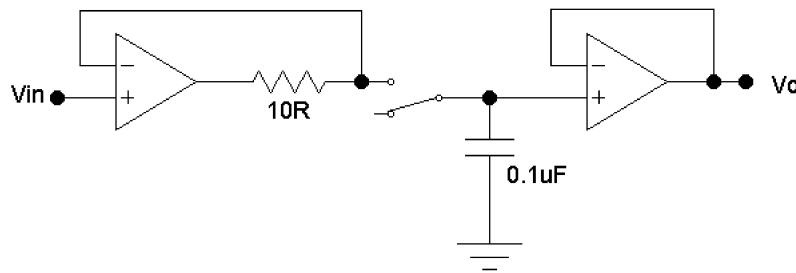

Figure 1.3: Sample and hold circuit
It is sometimes necessary to temporarily store a voltage. This is required when converting a voltage to a digital value, or to implement an analog signal delay. Figure 1.3 shows the schematic of a typical *track-and-hold* circuit. When the switch is closed, V_{out} tracks V_{in} . With the switch open, the capacitor is effectively isolated from V_{in} and V_{out} reflects the voltage stored in the capacitor.
- Ⓢ Sketch the circuit of Figure 1.3 in your lab book, clearly labelling all the connections to the LM358 dual op-amp chip.